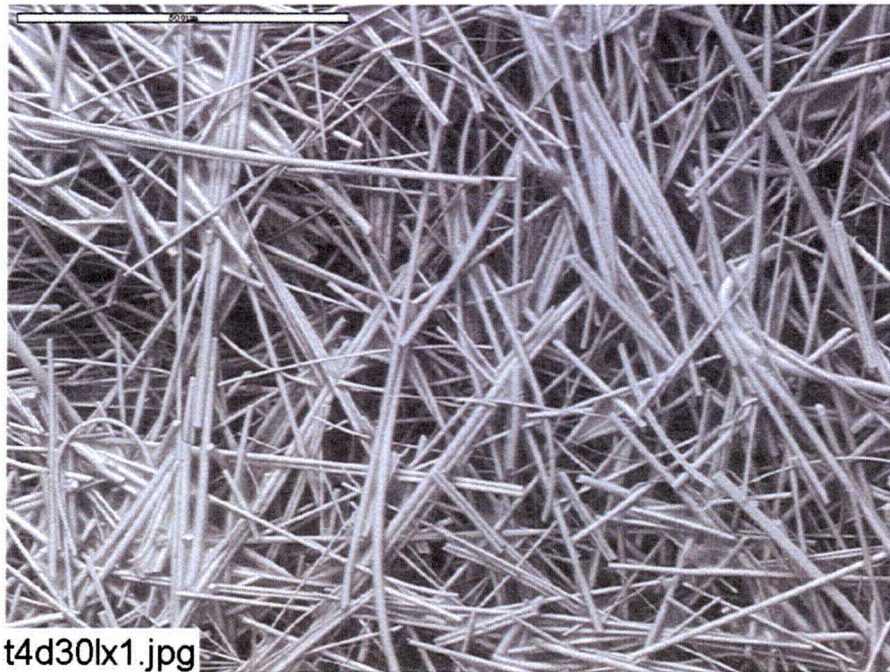

Figure C1-1. Environmental SEM image magnified 100 times for a Test #4, Day-30 exterior low-flow fiberglass sample. (t4d30lx1.jpg)
- Figure C1-1. Environmental SEM image magnified 100 times for a Test #4, Day-30 exterior low-flow fiberglass sample. (t4d30lx1.jpg)..... C1-4